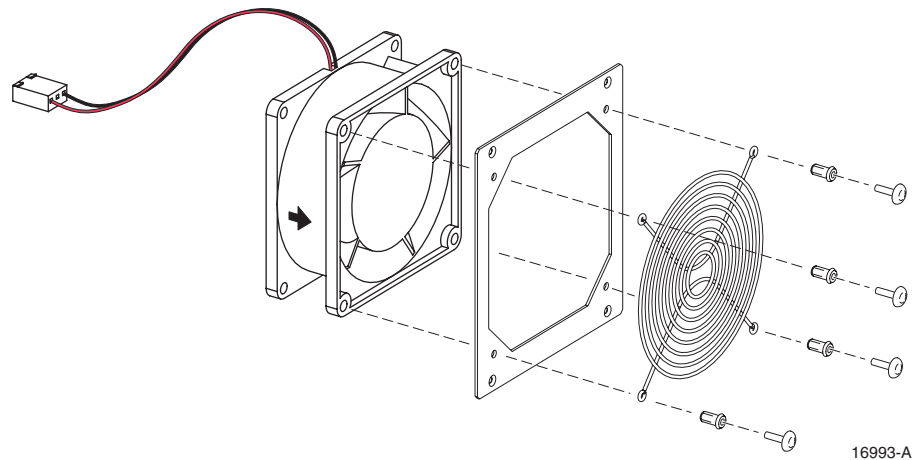

Figure 5-6. Removing STM Fan From Mounting Plate and Grill
9. Remove the plastic rivets that secure the fan to the mounting plate and grill by pushing outward on the rivet center post until the rivet can be withdrawn as shown in Figure 5-6.